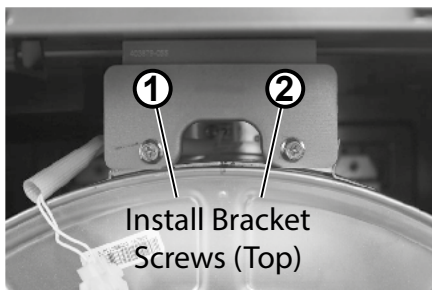

Figure 21 - Heat exchanger install bracket
- 46 Locate the heat exchanger install bracket and top two (2) screws as shown in Figure 21.